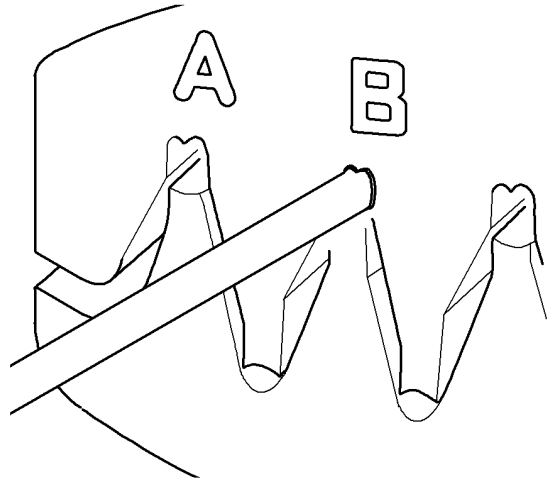

Figure 4 Crimping the insulation grip.
4. **Figure 4.** Insert the crimped terminal into the appropriate position of the crimp tool and close the crimp tool, to fasten the insulation of the wire in the outer grip of the terminal.